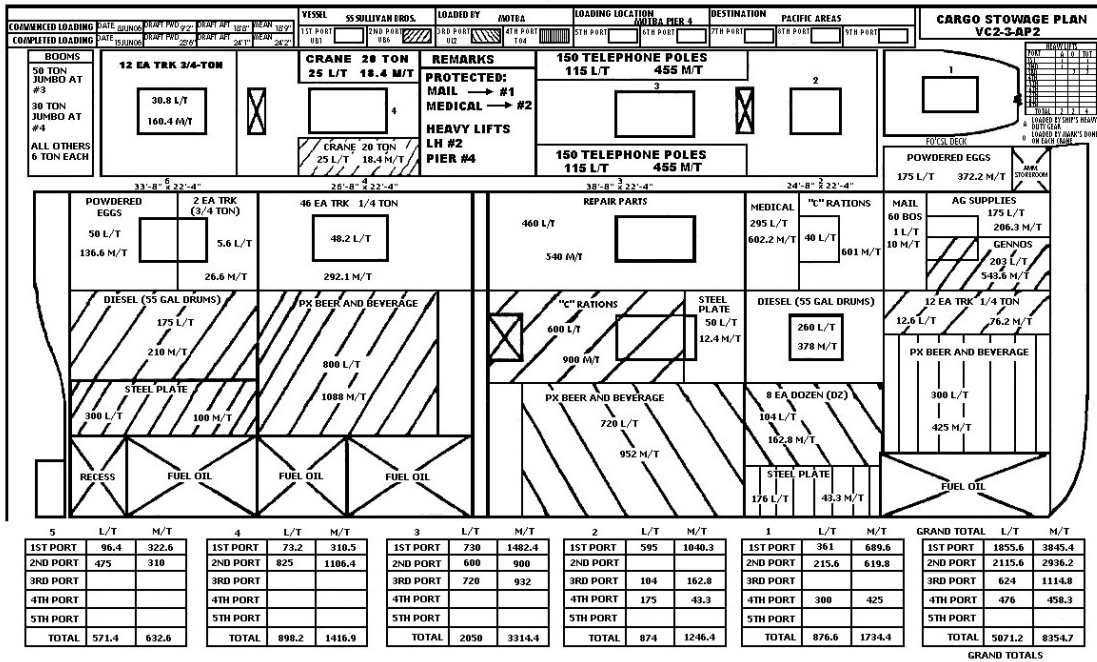

Figure 3-140
- b. Find the diagram on the stowage plan (see Figure 3-140) for the hatch to which assigned.